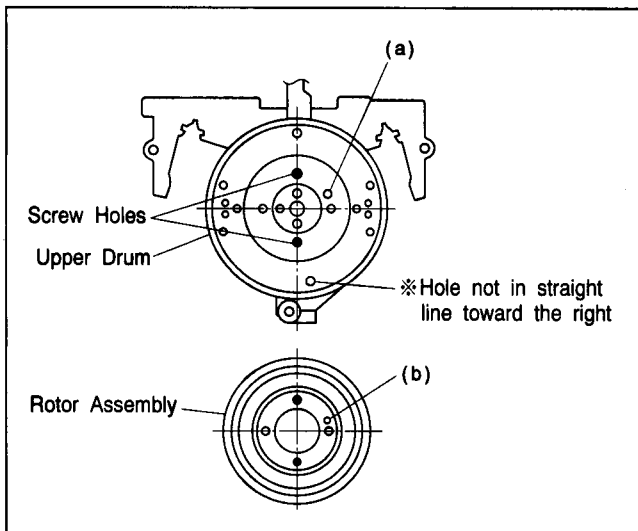

Fig. 2-5-24
(3) Align the upper drum assembly and rotor assembly phase as indicated in Fig.2-5-24.